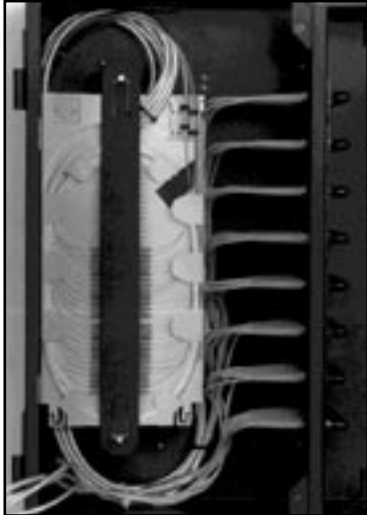

FIGURE 13 - SECURE SPLICE TRAYS WITH SPLICE TRAY HOLD DOWN STRAP
- 6.10** Secure Splice Tray(s) in place with Splice Tray Hold Down Strap. (Figure 13)